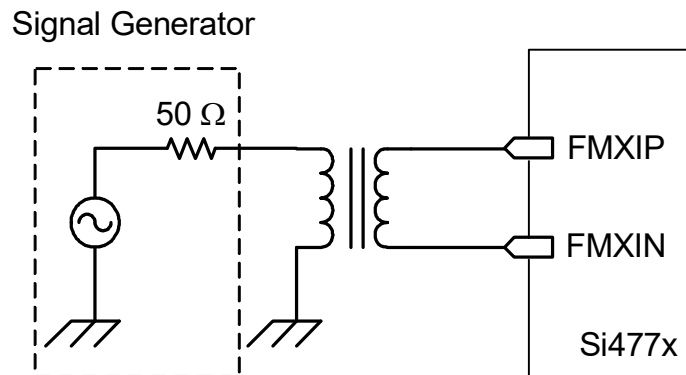

Figure 5. FM Test Circuit for Mixer Input IP3 and Sensitivity Measurement
5. Refer to FM test circuit in Figure 5.
<ol style="list-style-type: none"> 1. Guaranteed by characterization. 2. Measured at $T_{AMB} = 25$ °C. 3. Guaranteed by design. 4. IP3 measured at the FMXIP and FMXIN pins reflects IP3 for mixer stage and all subsequent downstream blocks. 5. Refer to FM test circuit in Figure 5. 6. No A-weighting. Noise integrated from 30 Hz to 15 kHz for audio SINAD and SNR measurements. 7. Input resistance is software configurable. 8. IP3 measured at the FMI input pin reflects IP3 for FMI LNA stage. 9. RDS Synchronization Persistence is the minimum RF level at which the tuner loses synchronization to the RDS PI code as the RF level decreases from high to low levels. 10. RDS Synchronization Stability is the minimum RF level at which the tuner achieves synchronization to the RDS PI code as the RF level increases from low to high levels. 11. Noise integrated from 30 Hz to 120 kHz for audio SINAD and SNR measurements.